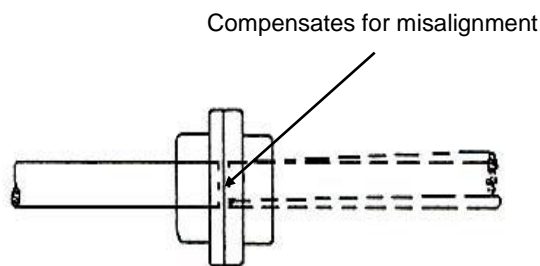

FIG 2.
- B. A coupling compensates or allows for some misalignment between the rotating coupled shafts. (Fig 2)